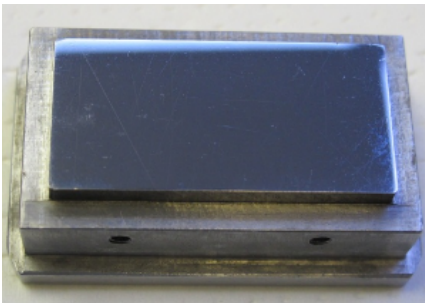

Figure 4
2. The face of the sample holders will be polished and the scuff marks should be removed (Fig. 4).